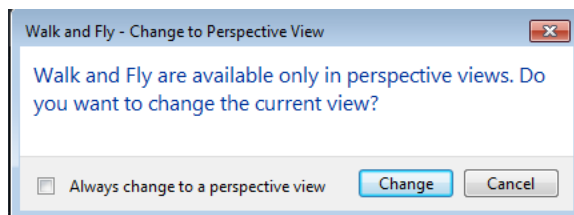

Figure 2-69 The Warning displayed on activating the Walk and Fly 3D navigation modes in the parallel projection
2. The Walk and Fly 3D navigation modes can be activated only in the perspective view. Activating the Walk or Fly 3D navigation mode in the parallel projection will display a warning window, as shown in Figure 2-69.